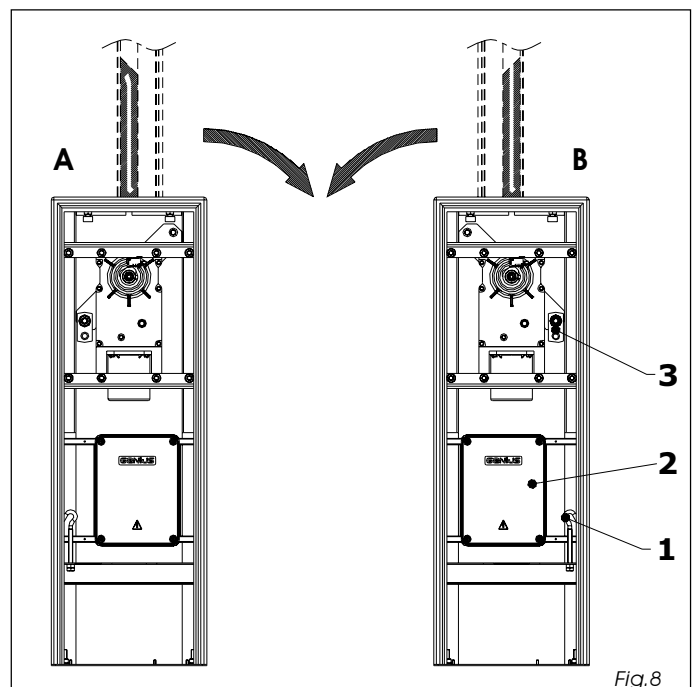

Fig.8
**Attention: The automated system is supplied ready for left-hand installation (fig.8 ref. A).**
Procedure for modifying the automated system from left- to right-hand (fig.8 ref.B).
- remove the tie-rod ref.1 fig.8.
- move the control unit from right to left ref.2 fig.8.
- position the tie-rod ref.1 fig.8 on the hole to the right of the control unit.
- move the spring securing plate ref.3 fig.8 from the left pin to the right pin.